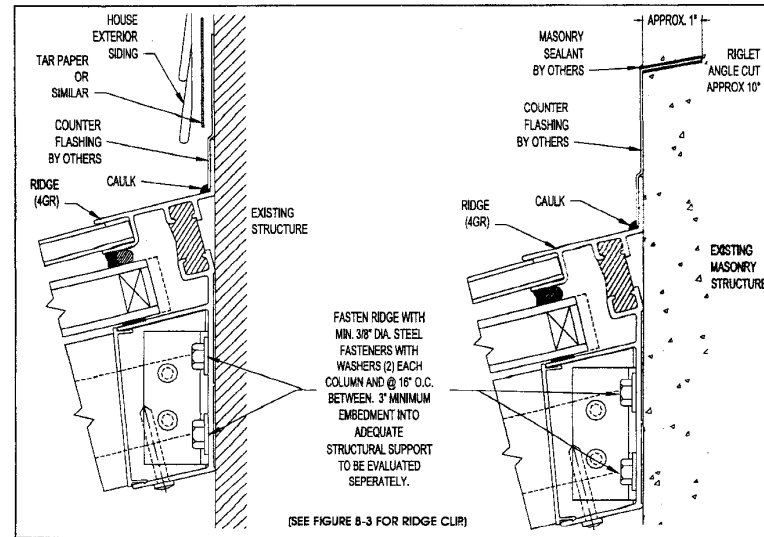

FIGURE 8-6
- 8.5.1 When counter flashing to conventional construction, tuck the flashing up behind the siding and tar paper or similar. Run the flashing down over the flashing tab of the ridge. Seal with caulking. Tool caulking to provide a good quality seal. See **Figure 8-6**.